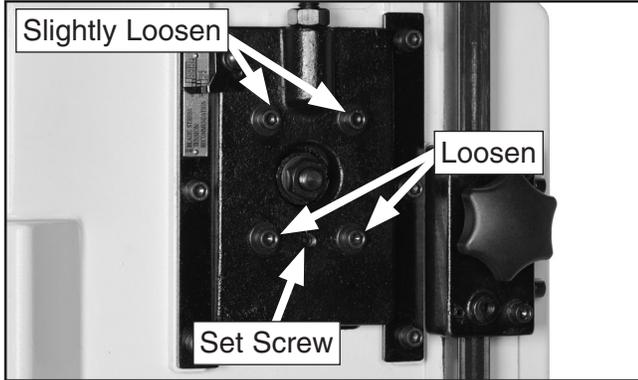

Figure 56. Upper wheel adjustments.
2. Behind the upper wheel, loosen the cap screws indicated in **Figure 56**. Only slightly loosen the upper two cap screws. This minimizes lateral movement of the upper wheel and ensures accurate adjustments.
4. Locate the set screws indicated in **Figures 56–57**. Adjusting these set screws changes the angle of the wheels.